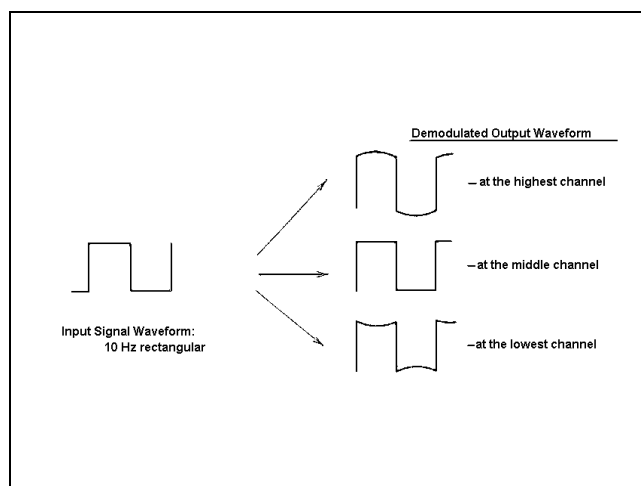

Figure 4 - Typical Rectangular Waveform of Demodulated Output
3. Change the signal to a 10 Hz rectangular waveform signal. Then, the demodulated output from the modulation analyzer should look like Figure 4. If the level adjustments under step 1 and 2 are out of balance, the rectangular waveform will be distorted (refer to Figure 4).